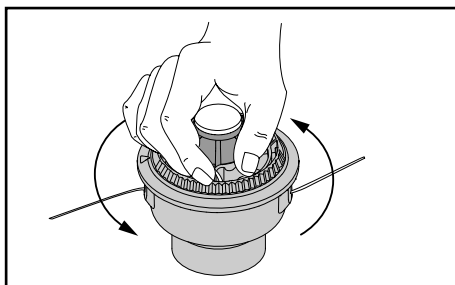

Fig. 21
6. Wind the inner reel counterclockwise until approximately four (4) inches of line remains outside of the eyelets in the outer spool (Fig. 21).